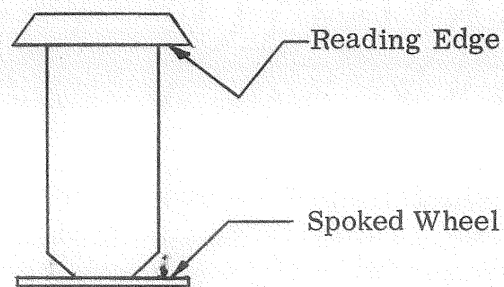

Figure 4-1. Rotameter Float
Before mounting, lay the Calorimeter on its back and insert the float into the rotameter by removing the 1-7/8 inch drain cock at the bottom of the rotameter. The float must be inserted with the spoked wheel facing the bottom of the rotameter. DO NOT DROP THE FLOAT. DAMAGE TO THE FLOAT WILL CAUSE INACCURATE READINGS. Refer to Figure 4-1 for an illustration of the float.
1. Turn on the water and adjust the flow rate for the maximum power of the load being used. These are minimum values. Flow rate must be regulated at the water flow valve with the source valve turned on full. See Fig. 4-1 below to determine the reading edge of the float.